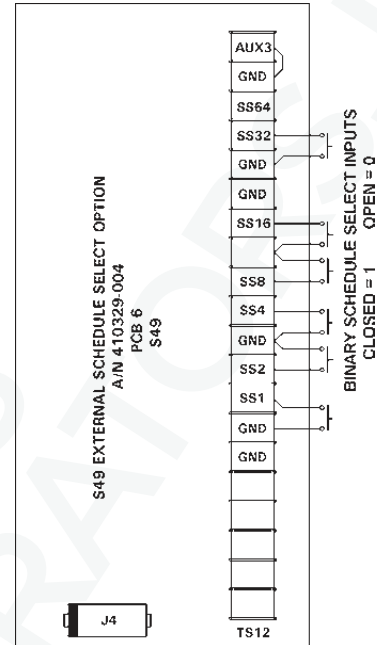

Figure 5-12. Switch closure connections
1. Select one of 50 schedules by an external device or operator acting on TS12-SS1 through TS12-SS32. See Switch Closure Connections diagram (Figure 5-12) and corresponding SCHEDULE SELECT table (Table 5-2).